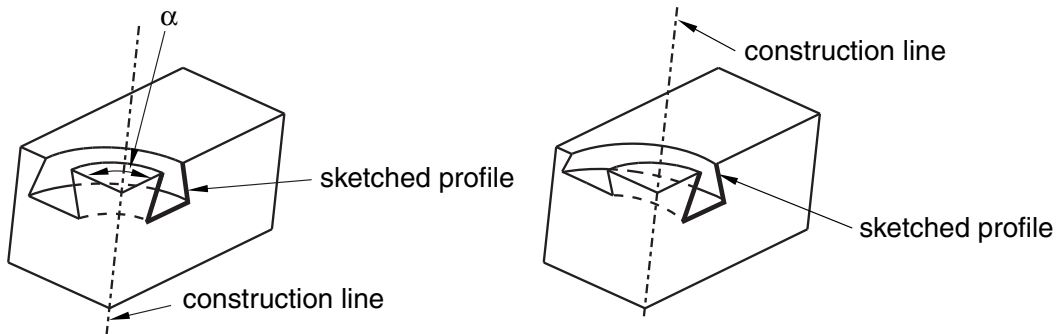

Figure 11–35 A revolved cut and a revolved cut with pitch.
- To create a swept cut, you sweep the profile along a specified path, as shown in Figure 11–36. Select **Shape**→**Cut**→**Sweep** from the main menu bar to create this type of feature. For more information, see “Defining the sweep path and the sweep profile,” Section 11.13.8.